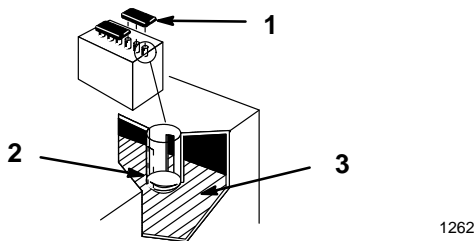

Figure 38
2. Lift off the filler caps (Fig. 38).
3. Slowly pour distilled water into each battery cell until the level is up to the lower part of the tube (Fig. 38).
2. Open covers to see into the cells. The electrolyte must be up to the lower part of the tube (Fig. 38). Do not allow the electrolyte to get below the plates. (Fig. 38).